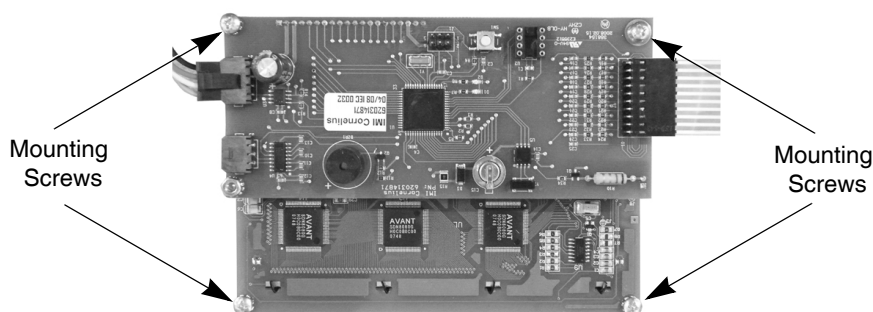

Figure 58. View of Display Board
The display board is located on the back of the control panel display. It is mounted to the panel with four (4) Philips head screws, shown in Figure 58.